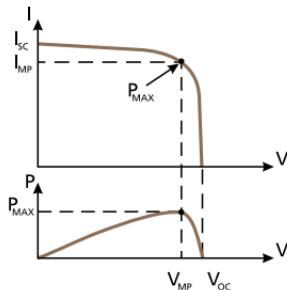

Fig. 2.8. Current (I), Voltage (V) and Power (P) Curves
A Current (I) versus Voltage (V) Curve of a PV / Solar Module ("I-V" Curve) shows the possible combinations of its current and voltage outputs. A typical I-V curve for a 12 V Module is shown in Fig. 2.8.